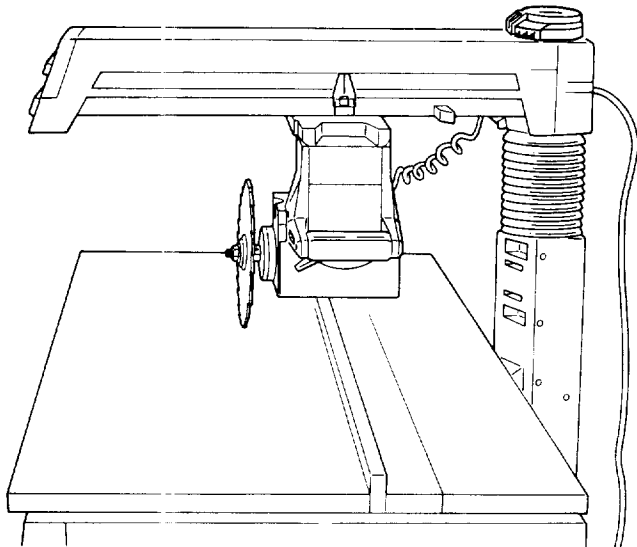

Fig. 73 - Out-rip Position
1. Unlock the *swivel lock* and turn the *motor* to the out-rip position with the *motor* between the *blade* and *fence*. (Figure 73)